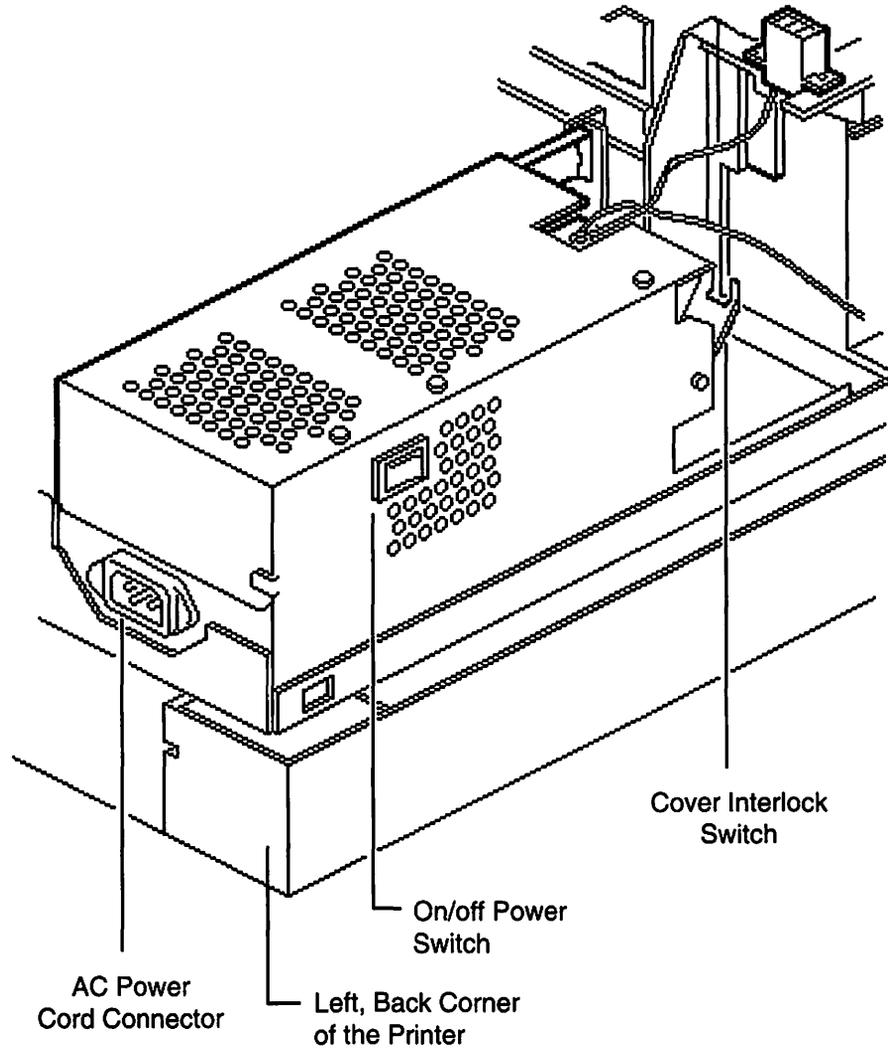

Figure 1-3
- The power supply (see Figure 1-3) contains the AC power cord connector and the printer on/off power switch. The power supply also contains the cover interlock switch, which cuts power to the fuser assembly when the front access door is open. This component supplies AC power to the fuser assembly and DC power to the DC controller.